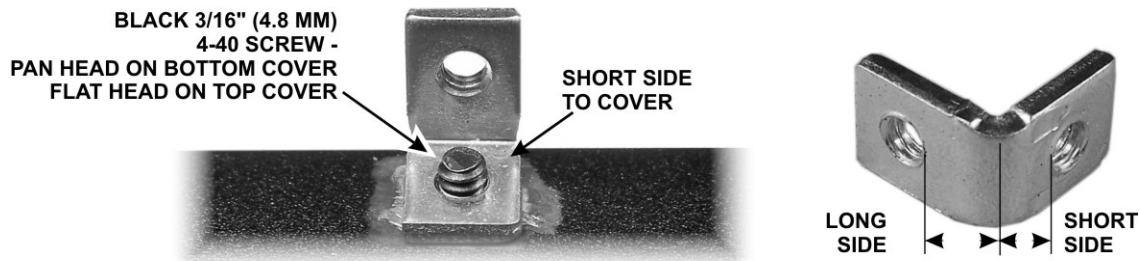

Figure 10. Installing Angle Brackets on the Covers.
At the mid-point along each side of the bottom and top covers is a screw hole. Mount the four angle brackets in these holes as shown in Figure 10. Be sure all six holes of each cover have clean metal on the *inside* surface. **Do not remove paint on the outside surface!** Be sure to use pan head screws on the bottom cover brackets and flat head screws on the top cover brackets. The holes in the top cover are counter sunk for the flat head screws. Check to ensure the brackets are oriented as shown. If you install the bracket backwards the case parts will not fit correctly.
2. Mount the two side panels after checking to ensure there is bare metal around the screw holes on the inside for good electrical contact. Although the panels are identical, they only fit one way so the holes align with the fasteners. If a screw binds or does not line up properly, loosen the other screws holding the 2D fastener or the screw into the L- bracket so it can move slightly for better alignment. If a side panel seems pushed away from the top and bottom covers at the center, check the L-bracket carefully. The usual cause is an L-bracket installed incorrectly (see Figure 10).
The top, bottom and sides are supported at the center by L-brackets (Figure 10 on page 33).